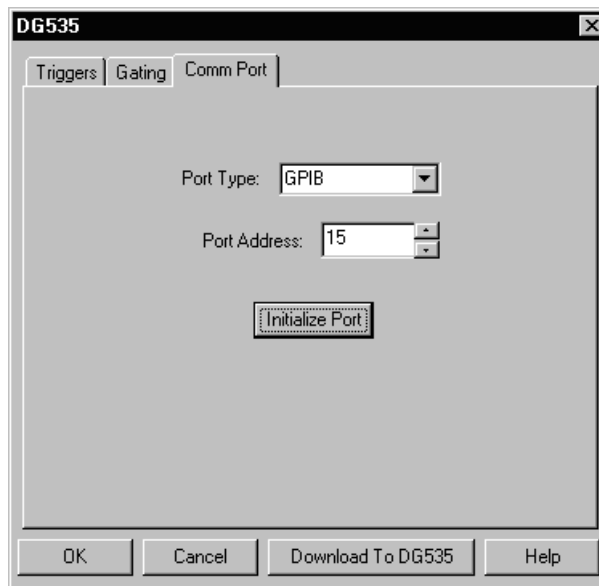

Figure 167. DG535 Comm Port tab page
5. Click on the **Comm Port** tab (Figure 167).